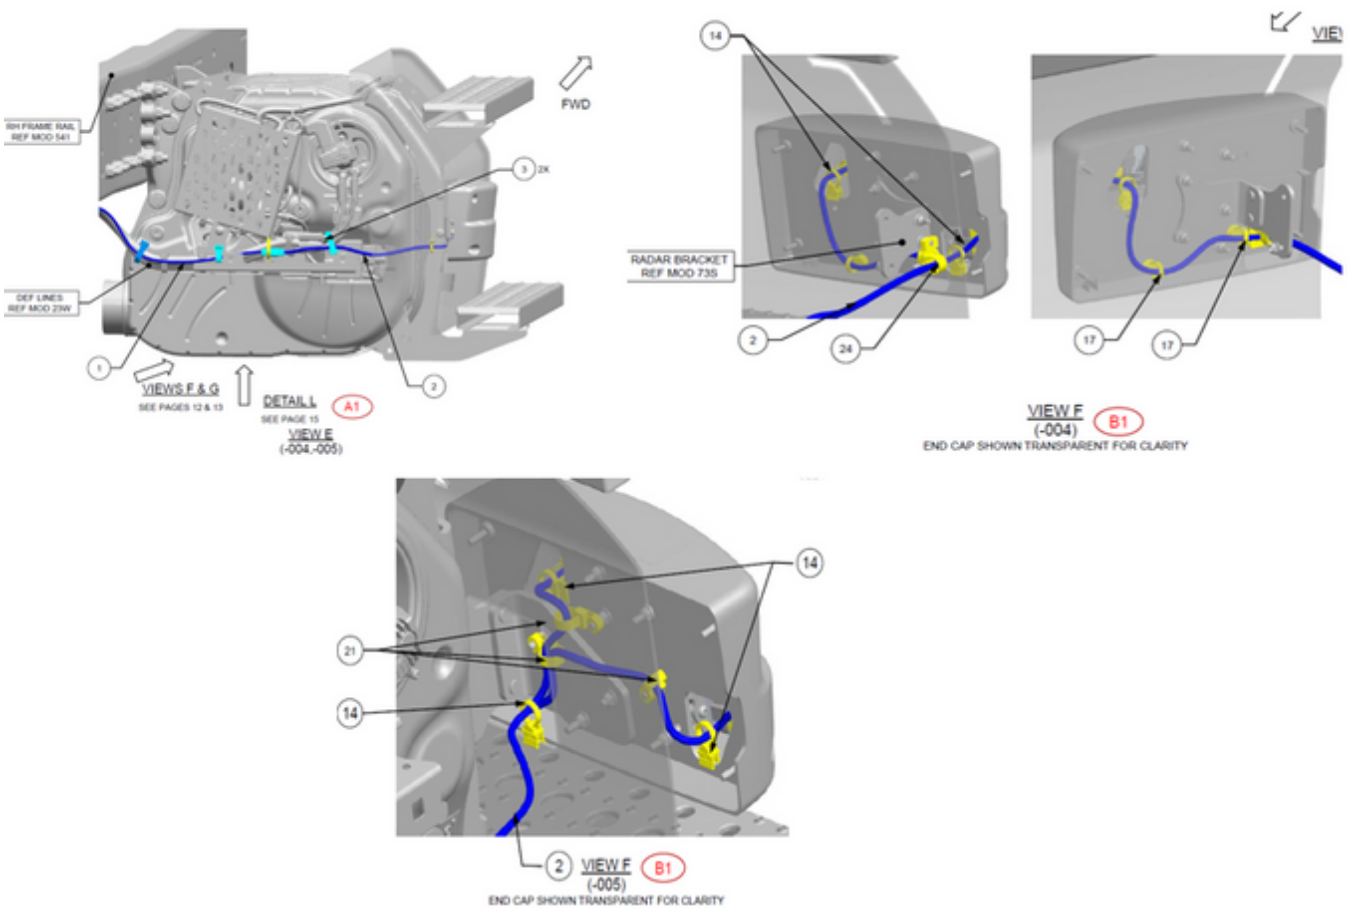

Figure 4: SOD Harness installation with additional clipping points (CAS 116 – 126 DC/SLP)
- Install and route Harness as per installation Diagram shown in Figure 4 for the specific models shown and refer to Table 3 for additional parts required: